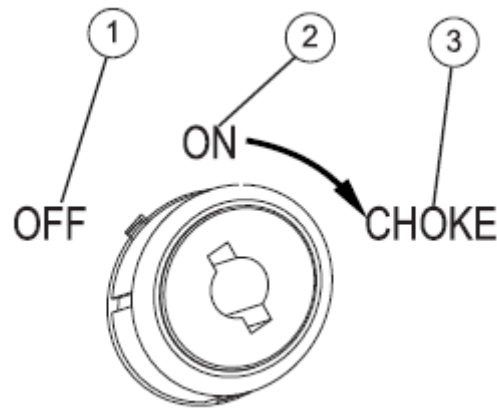

Figure-9 Off / On / Choke Positions
- \* **See Figure-9.** Turn OFF/ON/CHOKE dial from STOP to ON. This will open the fuel valve and permit starting.